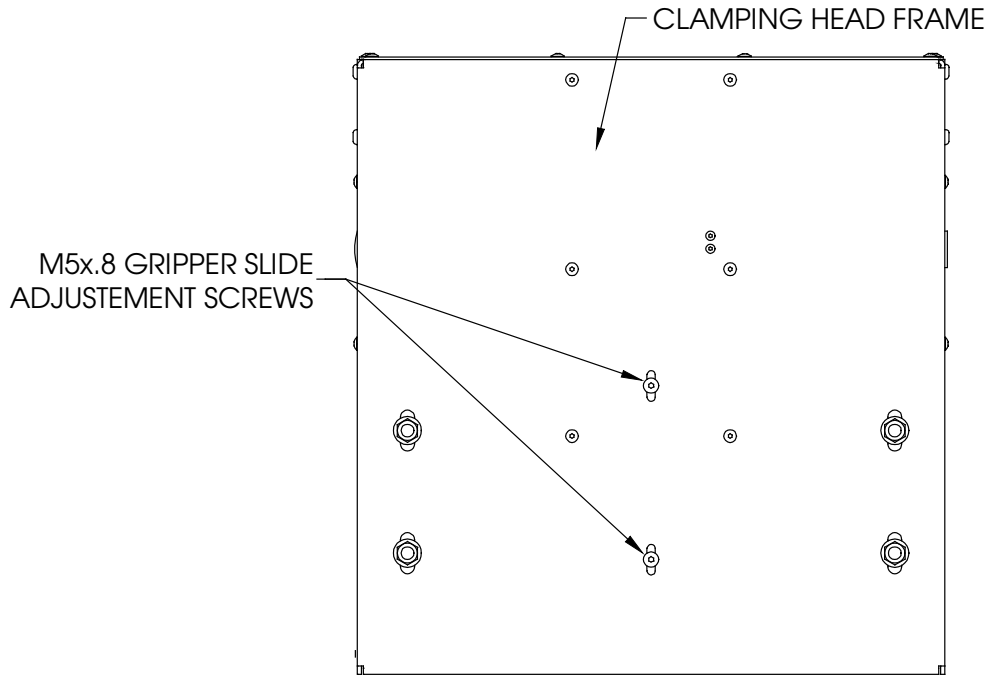

Figure 15. Gripper Slide Adjustment
5. Loosen the (2) two metric M5x.8 Gripper Slide Adjustment Screws located on the back of the Clamping Head Frame (shown in Figure 15). Move the Gripper Slide up to the top of the slots in the Clamping Head Frame and tighten the M5x.8 Gripper Slide Adjustment Screws to hold the Gripper Slide in place.